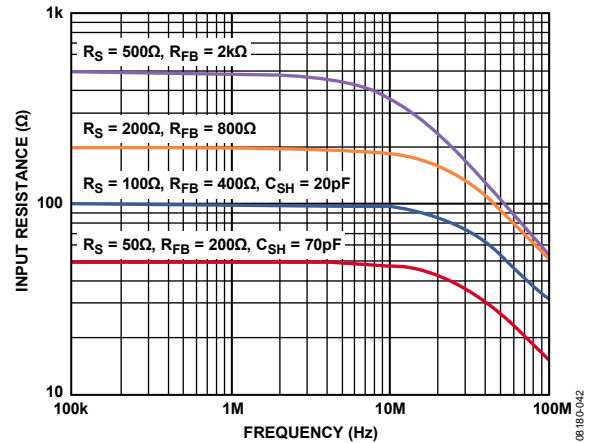

Figure 48.  $R_{IN}$  vs. Frequency for Various Values of  $R_{FB}$  (Effects of  $R_S$  and  $C_{SH}$  Are Also Shown)
The bandwidth (BW) of the LNA is greater than 100 MHz. Ultimately, the BW of the LNA limits the accuracy of the synthesized  $R_{IN}$ . For  $R_{IN} = R_S$  up to about 200  $\Omega$ , the best match is between 100 kHz and 10 MHz, where the lower frequency limit is determined by the size of the ac coupling capacitors, and the upper limit is determined by the LNA BW. Furthermore, the input capacitance and  $R_S$  limit the BW at higher frequencies. Figure 48 shows  $R_{IN}$  vs. frequency for various values of  $R_{FB}$ .